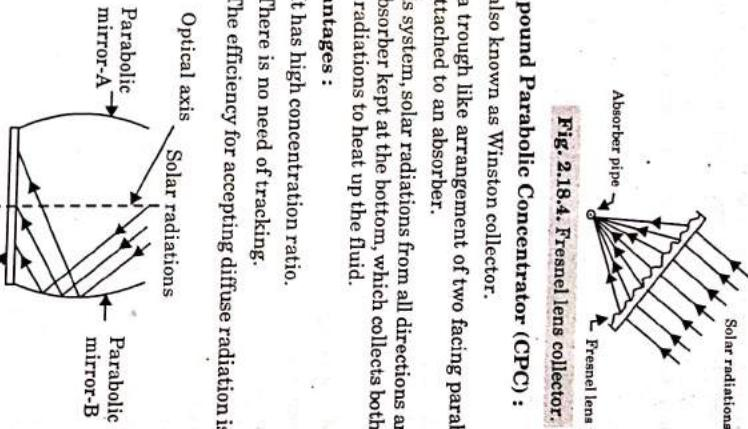

Fig. 2.18.4. Fresnel lens collector.
2. The solar radiations which fall normal to the lens are refracted by the lens and are focused on the absorber (tube) as shown in Fig. 2.18.4.